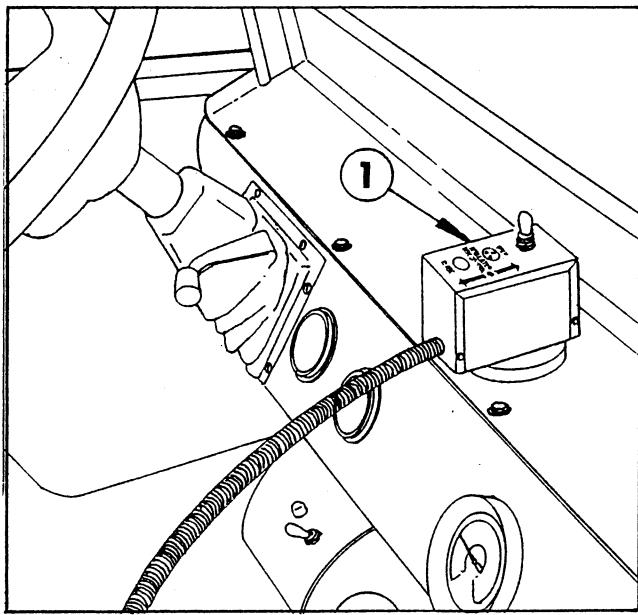

Fig. 4
**ELECTRIC CONTROL SWITCH:** Opens and closes the regulator disc in the Hopper opening, to start or stop the flow of material. Position the toggle switch at the "OPEN" or "CLOSE" position as indicated by the decal on the Control Box. See FIG. 4.